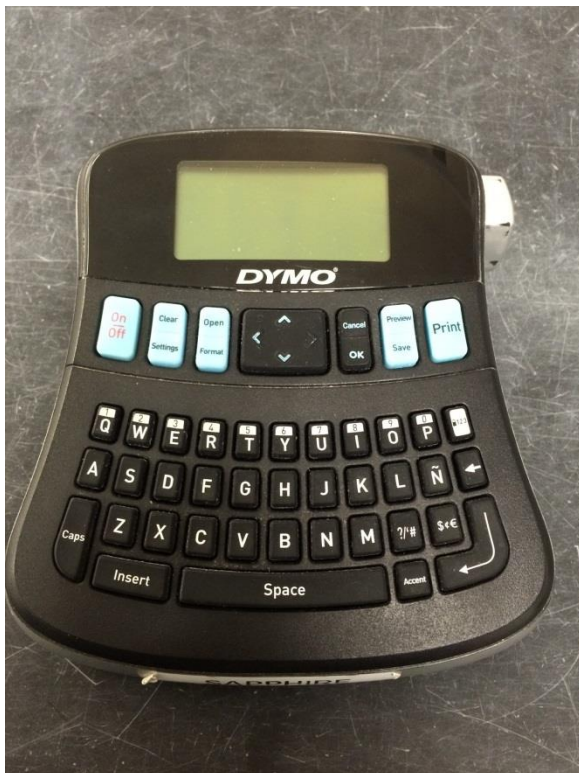

Figure 2 – Label Maker.
2.3.1.5. Print labels of the daughter carboy using a label maker. See Figure 2 and 3.